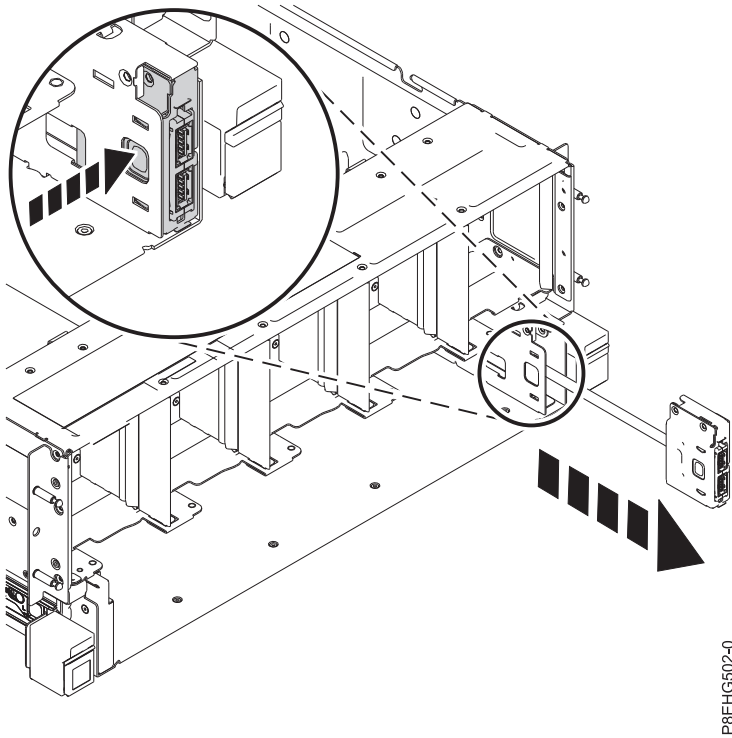

Figure 9. Unlocking the cable from the front of the system chassis
- b. At the front of the system, press the tab that is shown to release the USB cable from the front of the system chassis. Pull the USB cable out partially from the front of the system chassis. See Figure 9 on page 11.